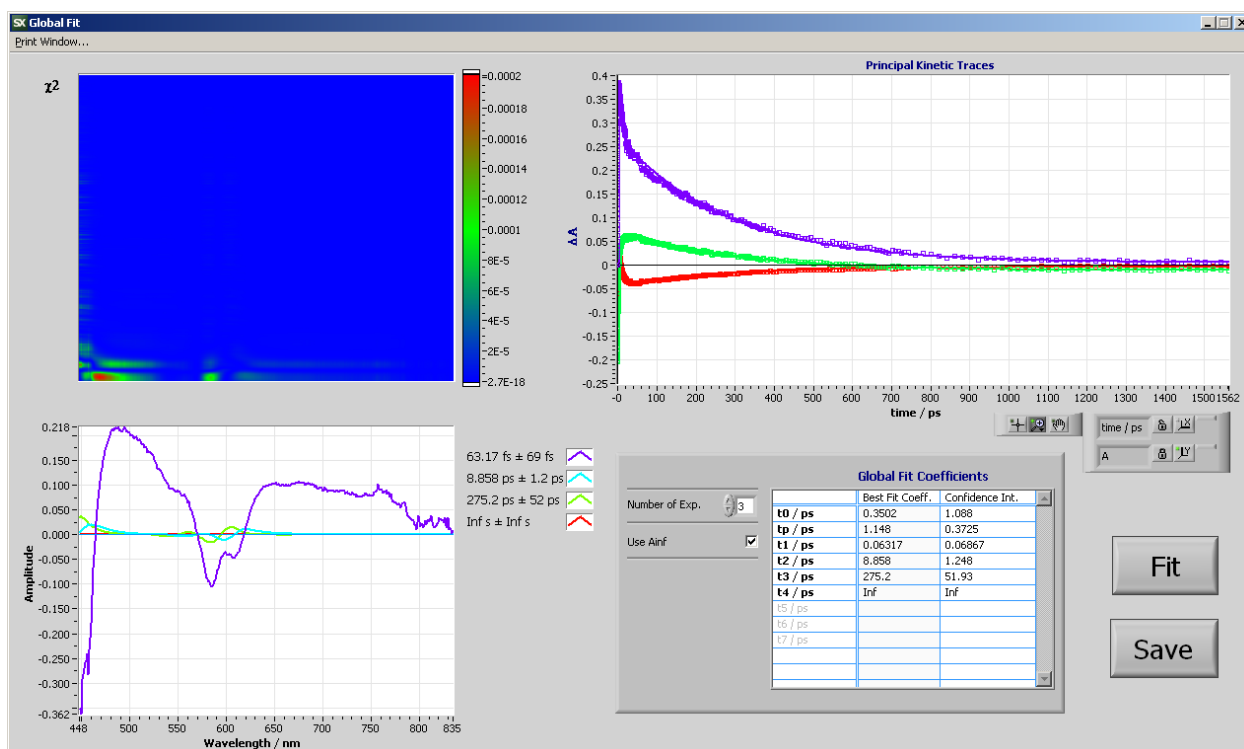

Figure 39 - View of the Global Fit window after fitting.
2. The solid curves representing the best fits for the kinetic traces (squares) of same color will be added to the upper right panel (Figure 39);